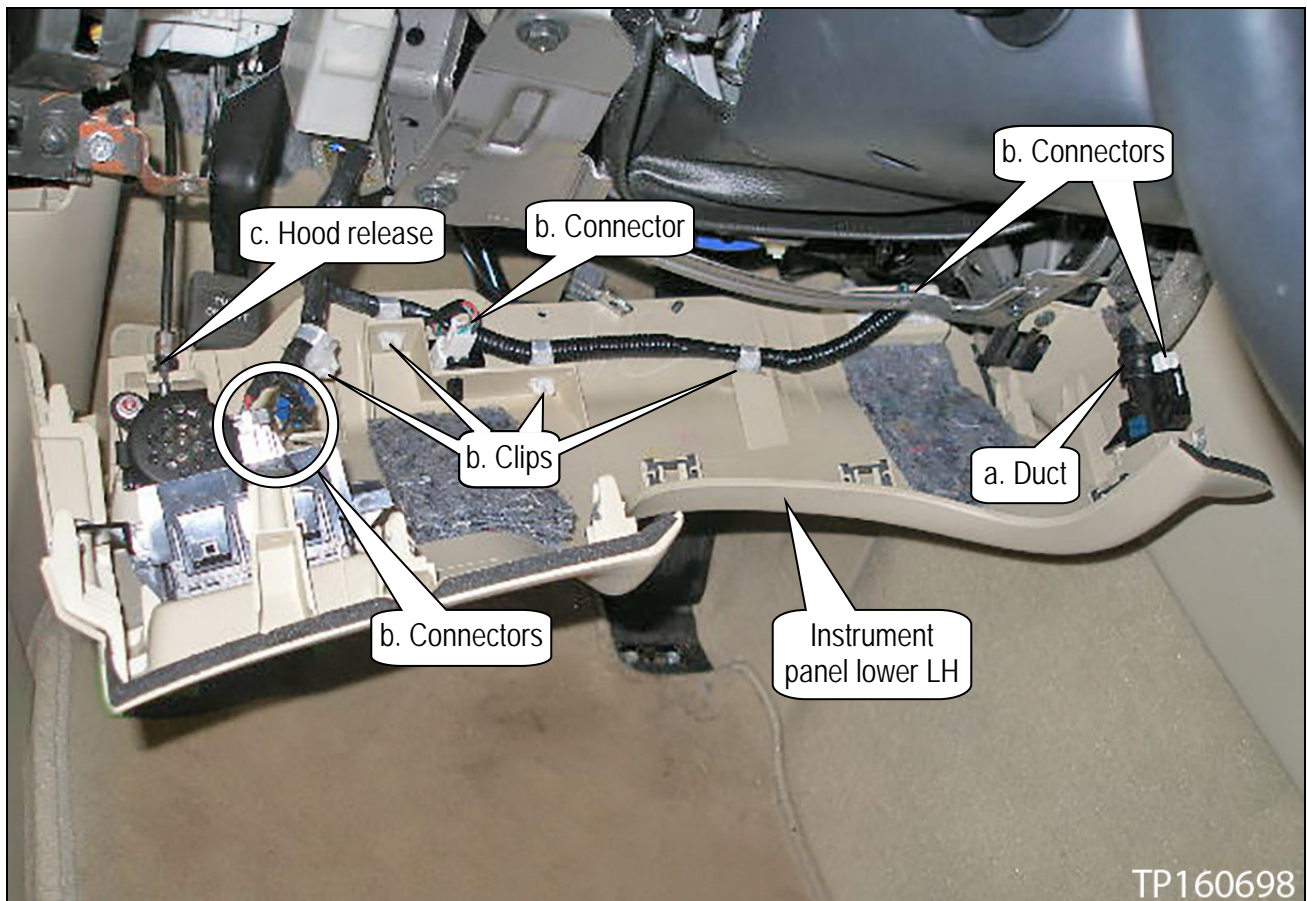

Figure 3
2. Remove the instrument lower panel LH (see Figure 3).